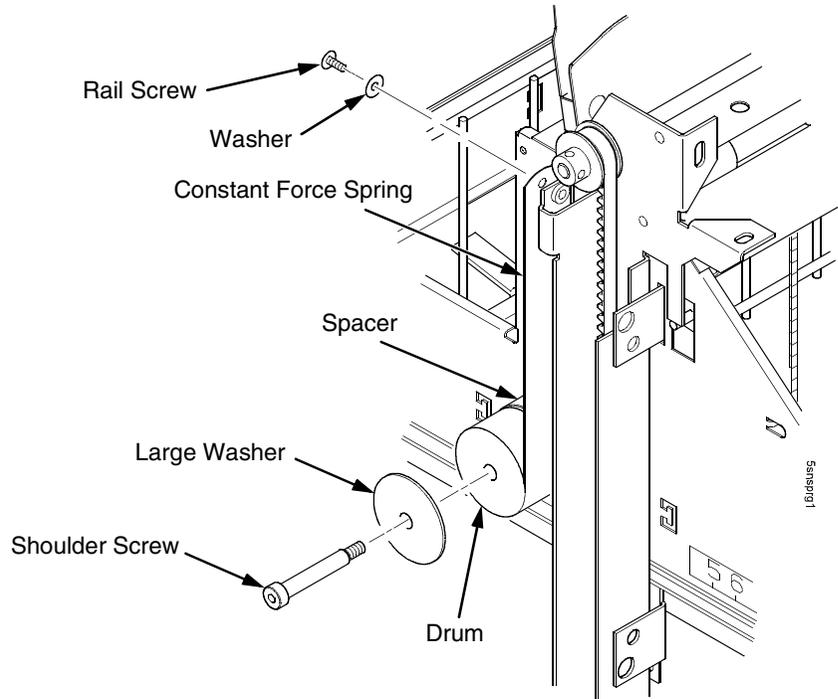

Figure 96. Removing the Constant Force Spring
3. Remove the shoulder screw and large washer from the constant force spring and drum. Let the spring coil itself up until it reaches the screw that secures it to the vertical rail. (Figure 96.)
4. Firmly gripping the spring and drum, remove the screw securing the spring to the vertical rail. (Figure 96.)